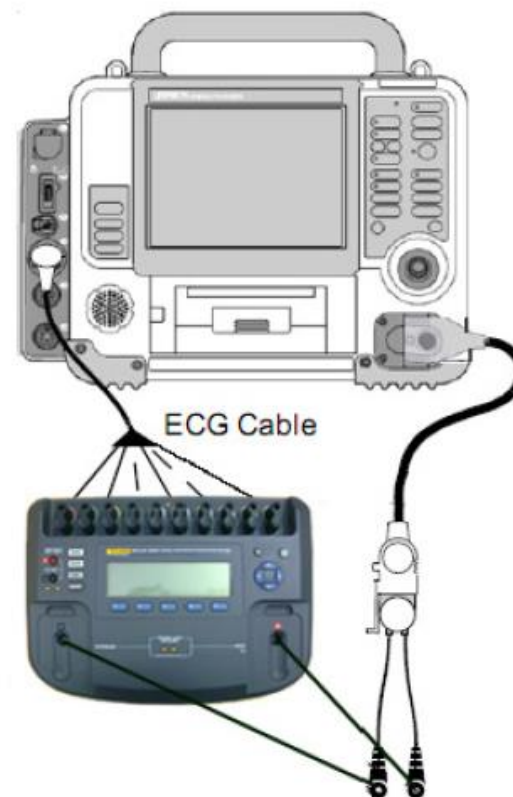

Figure 1.42—Synchronous cardioversion test setup
1. Ensure the therapy test cable and ECG cable are connected between the DUT and the defibrillator analyzer as shown in Figure 1.42.